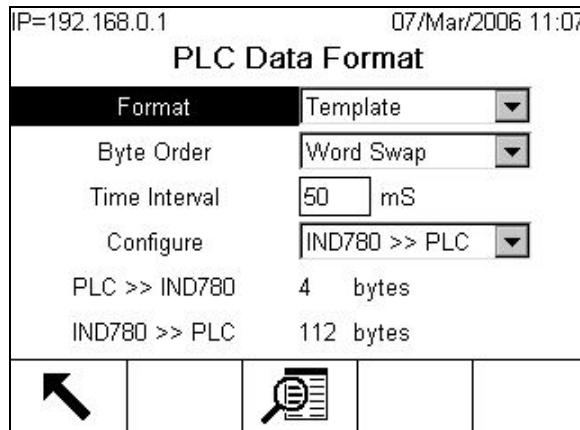

Figure 2-10: PLC Data Format Screen
4. Figure 2-10 shows the screen with Template selected as the format, revealing the Time Interval, Configure, and directional displays. When Application format is selected, only the Format box appears on this screen.